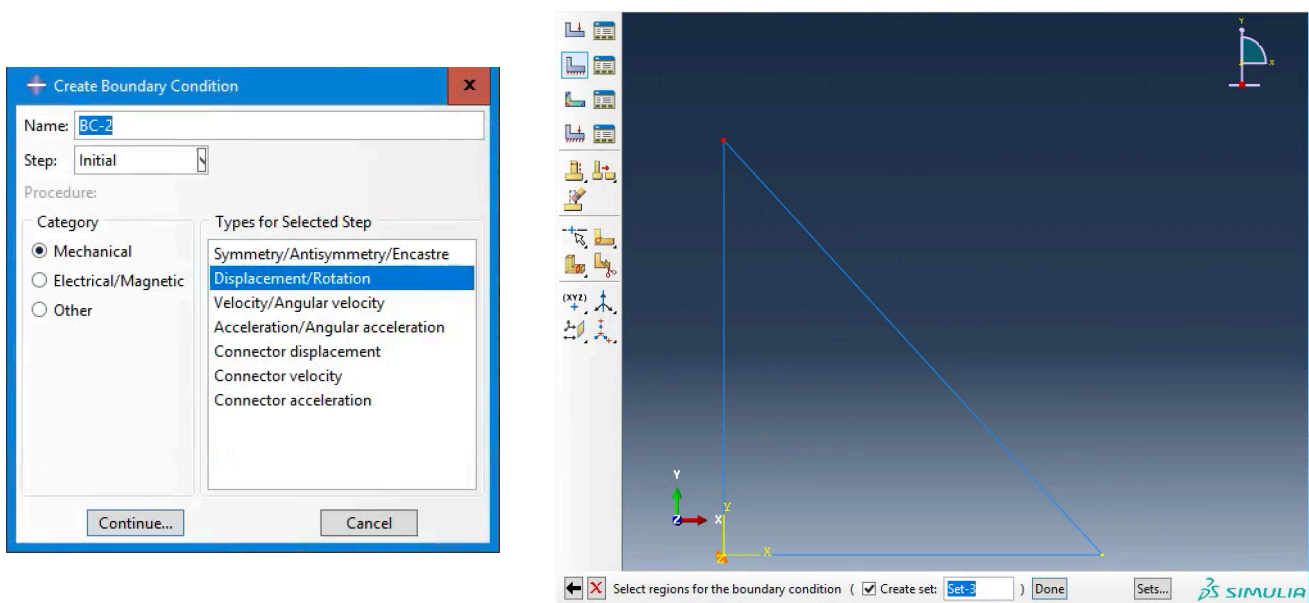

Figure 25 Defining the roller boundary condition
- Repeat the same procedure for the roller support. In this case, only U1 should be toggled on (Figure 25 and 26).